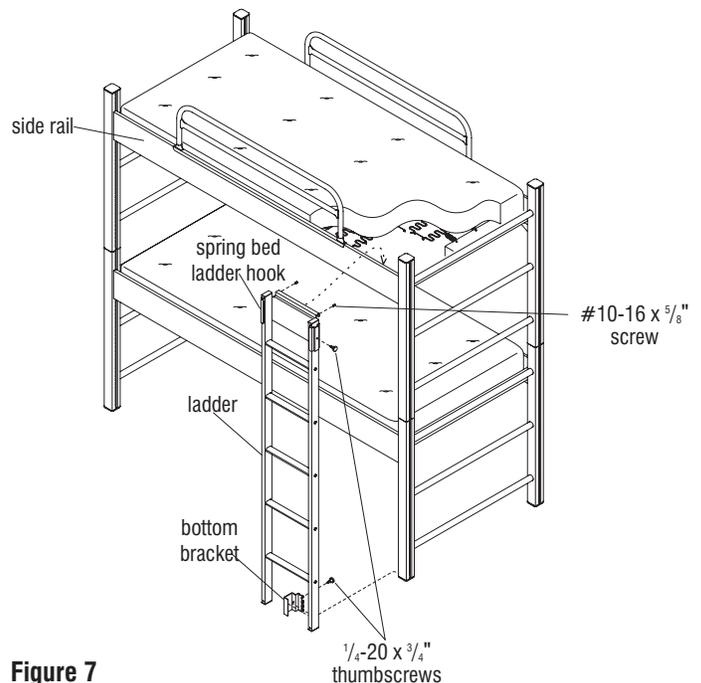

Figure 7
1. Place the ladder with installed spring bed ladder hook vertically against the upper side rail. Slide hook over the top of the rail and tighten thumbscrew (Figure 7).
2. Locate the two mounting holes in the back side of the ladder hook. Using a $\frac{1}{8}$ " dia drill bit, and the ladder hook mounting holes as a template, drill two holes through the metal at the inside of the side rail. Bore holes to not more than $\frac{1}{2}$ " deep (Figure 7).
3. Using two #10-16 x $\frac{5}{8}$ " screws at the top, secure the back tab of the ladder hook to the wood of the side rail through the pre-drilled mounting holes in the back tab and into the wood of the side rail (Figure 7).
1. Begin installation by leaning the ladder against the upper bunk of loft side rail at the location where it is to be installed. Position the spring bed ladder hook over the ladder as illustrated. Hook the back tab of the ladder hook onto the side rail. Do not secure ladder hook to ladder or side rail at this time (Figure 7).
to the floor. Press down to engage bracket to end frame. Attach the $\frac{1}{4}$ -20 x $\frac{3}{4}$ " thumbscrew through the bottom bracket mounting hole and into the ladder. (Figure 7).
3. Locate the two mounting holes in the back side of the ladder hook. Using a $\frac{1}{8}$ " dia drill bit, and the ladder hook mounting holes as a template, drill two holes through the metal at the inside of the side rail. Bore holes to not more than $\frac{1}{2}$ " deep (Figure 7).
4. Using two #10-16 x $\frac{5}{8}$ " screws at the top, secure the back tab of the ladder hook to the wood of the side rail through the pre-drilled mounting holes in the back tab (Figure 7).